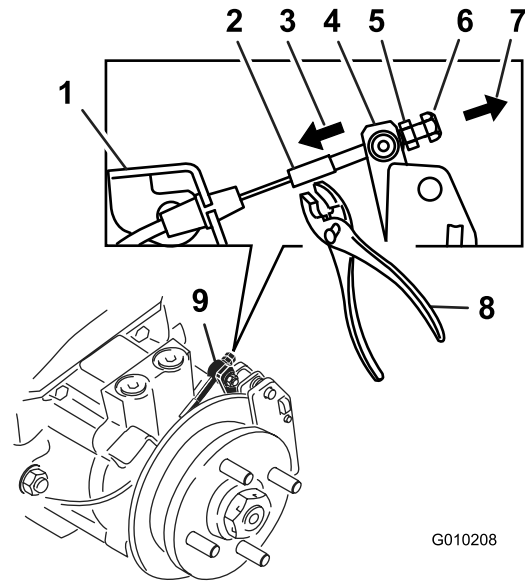

Figure 74
9. Using hands and fingers only, push the caliper lever arm to engage the brake pads on the rotor until the lever stops (Figure 74).
10. While holding the lever at the stopped position, use the other hand or fingers to pull the cable threaded end tight through the swivel. Spin the standard nut against the swivel (Figure 74).